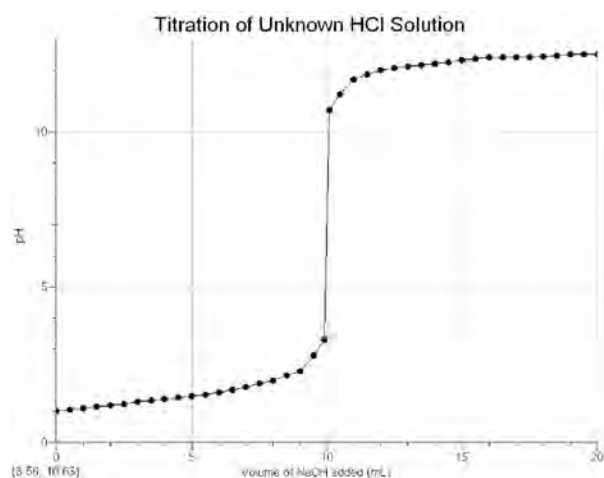

Figure 7.5. Typical titration curve.
29. Allow the NaOH solution to drip into the acid solution until the titration is complete. When complete the pH value will plateau at approximately 10–12 (see Figure 7.5).